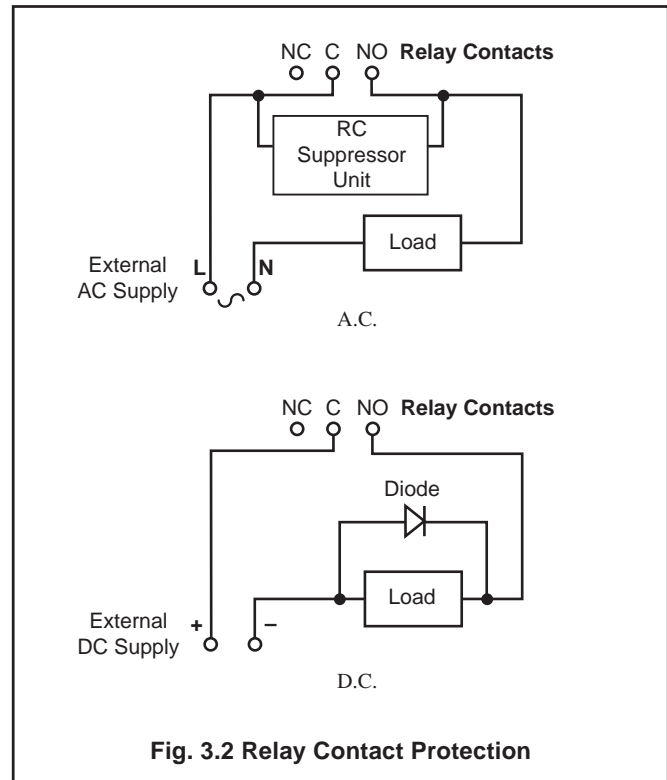

Fig. 3.2 Relay Contact Protection
3.2.1 Relay Contact Protection and Interference Suppression – Fig. 3.2